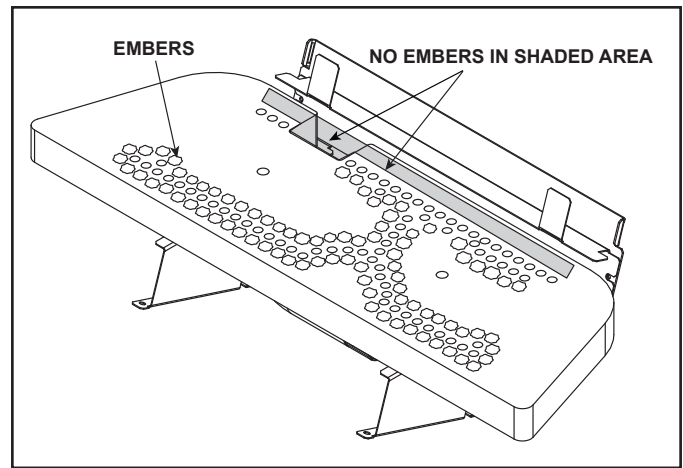
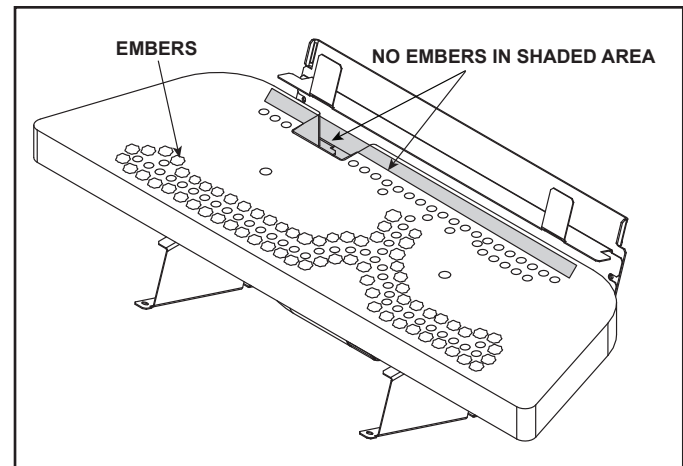

Figure 11.7 Placement of Embers (NG ONLY)
Figure 11.8 Placement of Embers (LP & ULPG Only)
- Embers may only be placed in areas as shown in Figure 11.7 and Figure 11.8 (LP & ULPG Only).